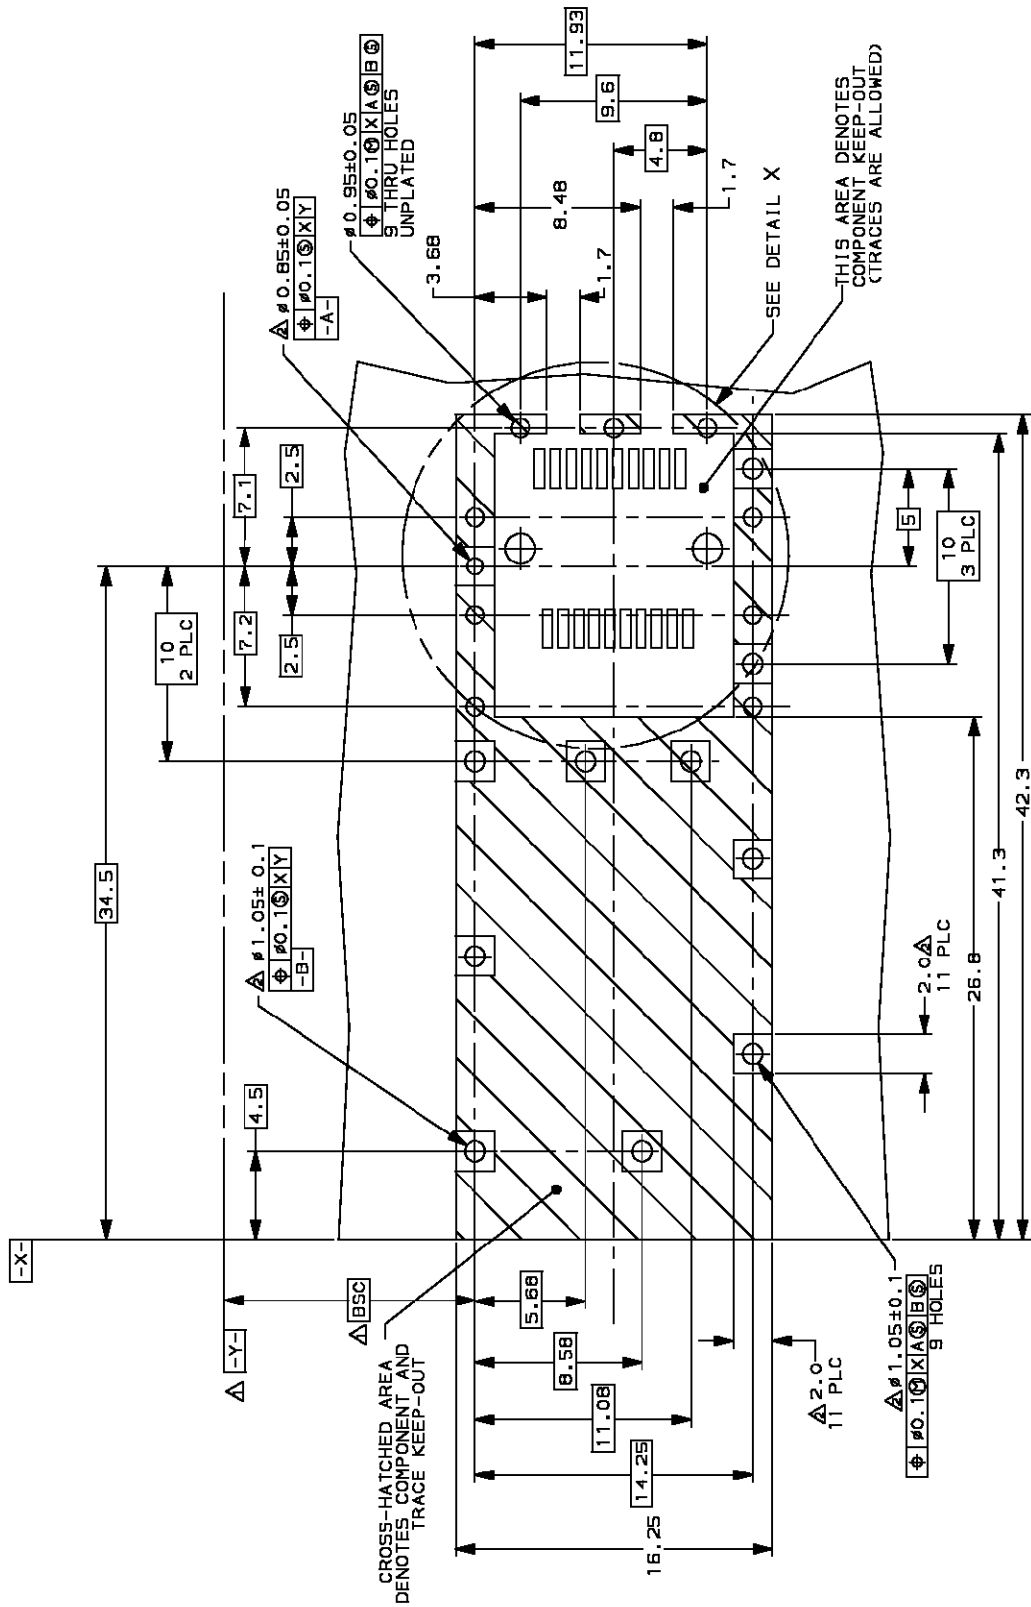

Figure 2 (Cont'd)
- Added Local Note 2 to two places in Figure 2
The connector alignment post holes and contact circuit pads, and the cage assembly mounting post holes, EMI suppression pin holes, and circuit pads must be precisely located to ensure proper placement and optimum performance of the connector and cage assembly. Recommended pad pattern, dimensions, and tolerances are provided in Figure 2.